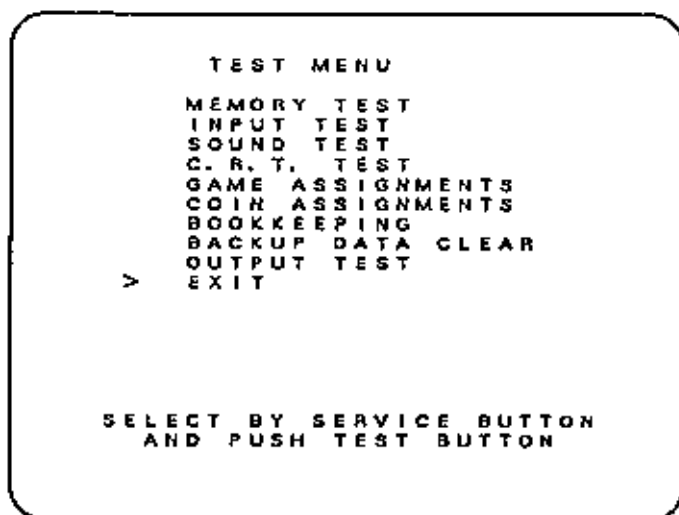

FIG. 8.2 TEST MENU
- Pressing the TEST button displays the test menu (FIG. 8.2) and at the same time, unlocks the bike body.